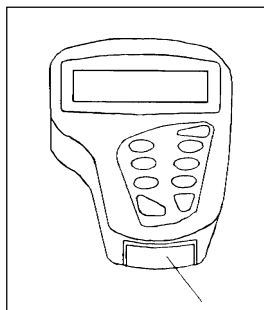

Figure 12: Location of RS232C Port (Only in pH 100)
1. Open the printer port cover located at the bottom end of the meter. Do not use excessive force when doing this. See Figure 12.